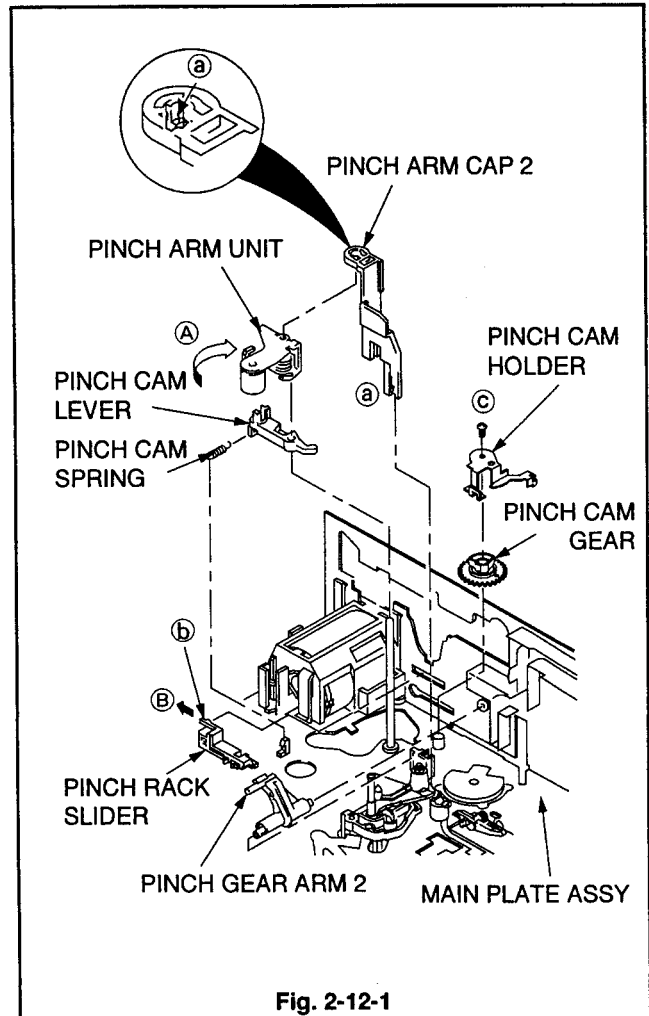

Fig. 2-12-1
1. Use tweezers to unfasten the two Catches (a) of the PINCH ARM CAP 2 shown in Fig. 2-12-1, and remove the PINCH ARM CAP 2.
2. Move the PINCH ARM UNIT in the direction shown by arrow (A) to remove it as shown in Fig. 2-12-1.
3. Remove the PINCH GEAR ARM 2 shown in Fig. 2-12-1.
4. Remove the PINCH CAM SPRING shown in Fig. 2-12-1.
5. Remove the PINCH CAM LEVER shown in Fig. 2-12-1.
6. Unfasten the Catch (b) of the PINCH RACK SLIDER shown in Fig. 2-12-1. Move the PINCH RACK SLIDER in the direction shown by arrow (B) to remove it.
7. Remove the screw (c) of the PINCH CAM HOLDER shown in Fig. 2-12-1, to remove the PINCH CAM HOLDER.
8. Remove the PINCH CAM GEAR shown in Fig. 2-12-1.
6. Install the PINCH CAM LEVER shown in Fig. 2-12-1.
7. Install the PINCH CAM SPRING shown in Fig. 2-12-1.
10. Move the PINCH ARM UNIT in the opposite direction of arrow Ⓐ to install it as shown in Fig. 2-12-1.
11. Install the PINCH ARM CAP 2 shown in Fig. 2-12-1.